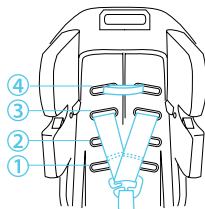

Fig. 61-2
- 5- **Rear View levels 1 through 4 :** Always hook and loop the head insert through harness level 4. Always use use body insert slots for level 1 (Fig. 61-2).